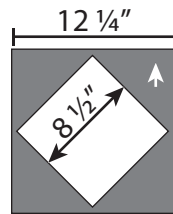

Fig. 1
- (3) 12 ¼" x WOF strips. Sub-cut (9) 12 ¼" squares. From each square cut (1) 8 ½" square on-point (Fig. 1).
- See instructions to cut (15) Tires.